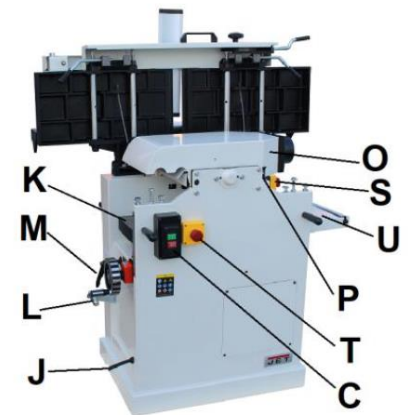

Fig 2
- J....Mains plug (not Shown) (Fig.2)
The purpose of 4 carry handles (R, Fig. 2) is just to unload the machine from the pallet when unpacking.
The power feed can be engaged and disengaged with handle (L, Fig 2).